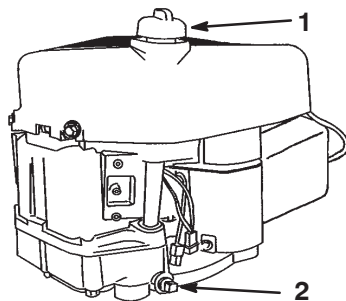

Figure 14
7. Clean around the oil dipstick (Fig. 14) so that dirt cannot fall into the fill hole and damage the engine.
9. Place a pan below the oil drain plug and remove it (Fig. 14).
12. Slowly pour approximately 80% of the specified amount of oil into the fill hole (Fig. 14). Check the oil level; refer to steps 4 and 5 of Checking the Oil Level on page 19.
5. Slowly pour approximately 80% of the specified amount of oil into the fill hole (Fig. 14). Check the oil level; refer to steps 8 and 9 of Checking the Oil Level on page 19.